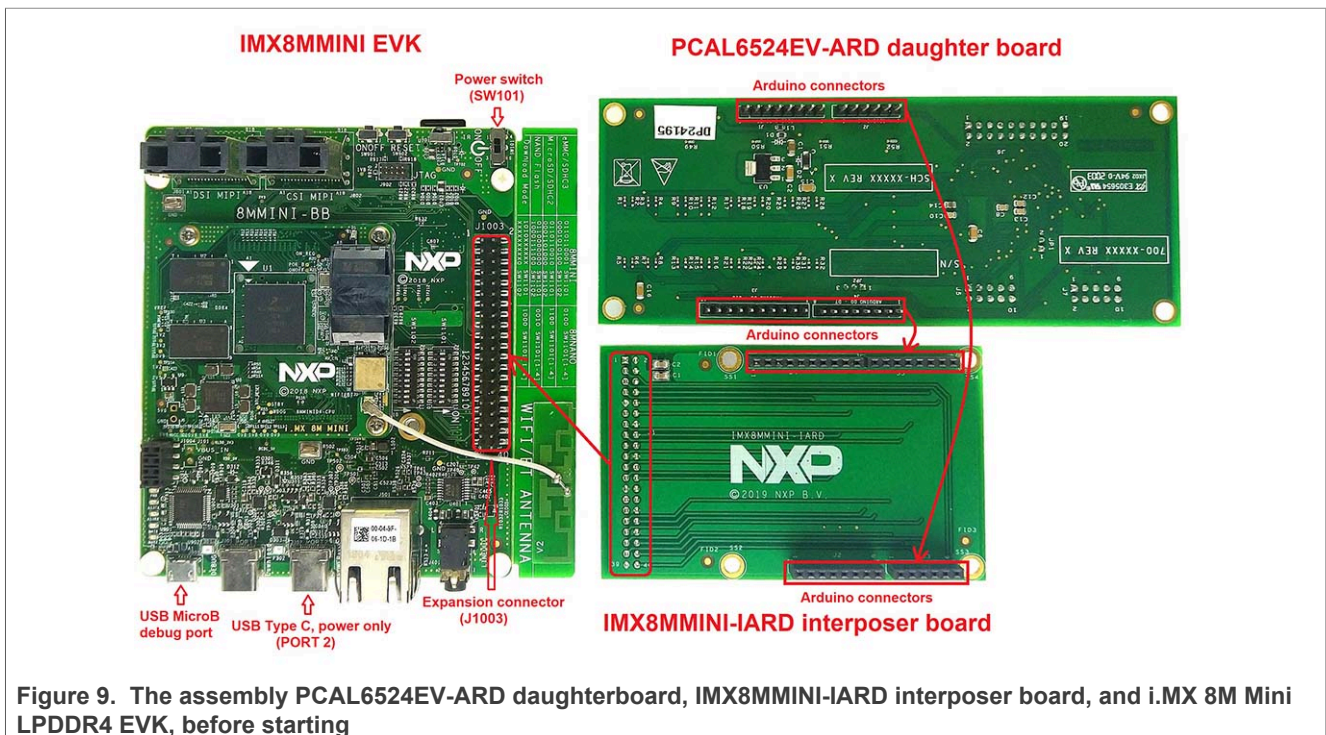
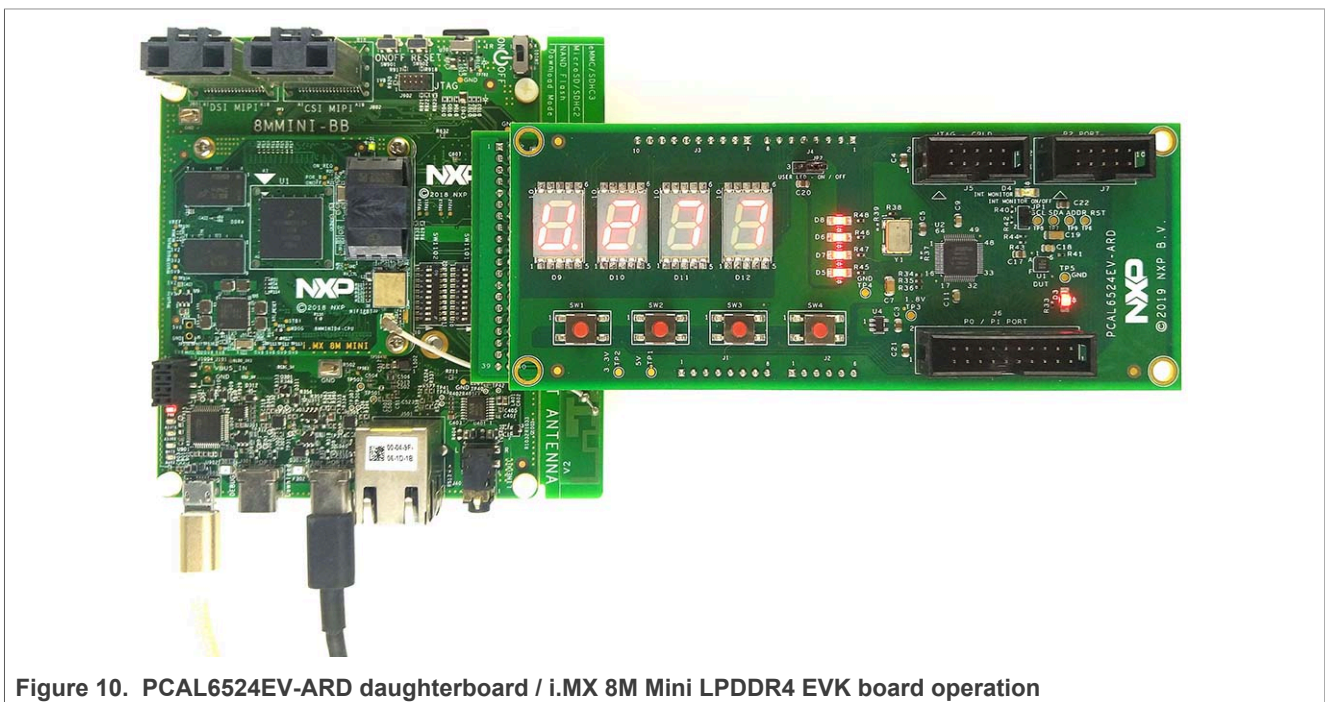

Figure 9. The assembly PCAL6524EV-ARD daughterboard, IMX8MMINI-IARD interposer board, and i.MX 8M Mini LPDDR4 EVK, before starting
Figure 10. PCAL6524EV-ARD daughterboard / i.MX 8M Mini LPDDR4 EVK board operation
To operate the setup, along with the EVK and the daughterboard, a third board must be included in the setup assembly. Figure 9 shows the necessary boards and how these boards are connected. The configuration consists of:
To power-up the EVK, an USB-C type cable connected to PORT 2 of the EVK is used. The power switch SW101 on the EVK board must be set to ON position to power-up the setup. Data communication is achieved by routing a separate USB (Micro-B type) cable from an USB port on the PC to debug port (J901) on the EVK (see Figure 9 and Figure 10).
2. Attach IMXMMINI-IARD connector plug J1 (located on the bottom of the board) into J1003 expansion board located on the top side of i.MX 8M Mini LPDDR4 EVK (see Figure 9);
- **Select Board:** allows the user to select the correct daughterboard (the application can support four different boards). In Figure 10, the selected board is PCAL6524. Selecting a wrong daughterboard causes the connection to fail and a pop-up window with the message: *“Unable to Connect with Daughter Card”* appears on the screen.